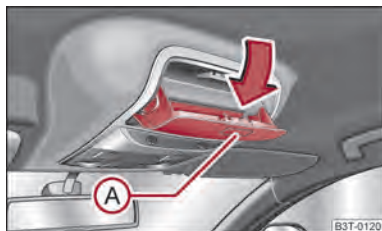

Fig. 97 Detail of the headliner: Stowage compartment for spectacles
- Press the button **A** ⇒ fig. 97, the storage compartment folds down.